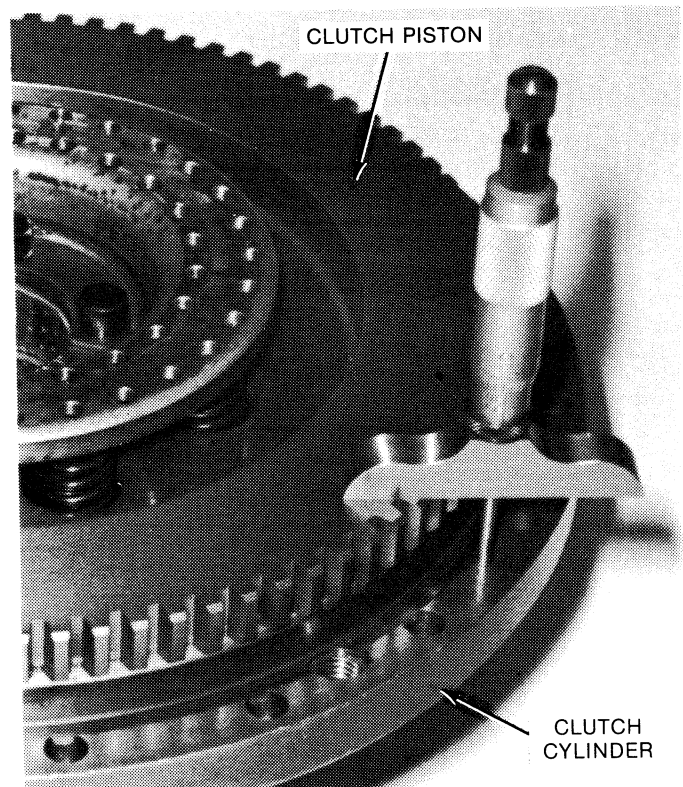

Figure 9-15. Measuring from Rear of Clutch Piston to Flange on Clutch Cylinder.
b. Measure the distance from the rear of the clutch piston to the flange on the clutch cylinder. See Figure 9-15.